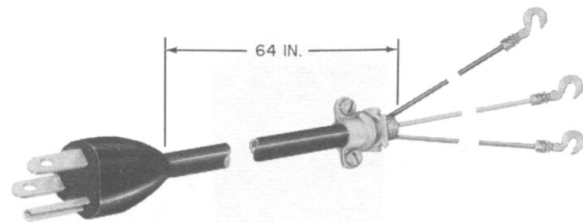

Fig. 3—KS-19425, List 22 Cable Assembly
2.11 A KS-19425, List 22 cable assembly (Fig. 3) may be used to bring overhead power into an **indoor** booth at either side or rear.